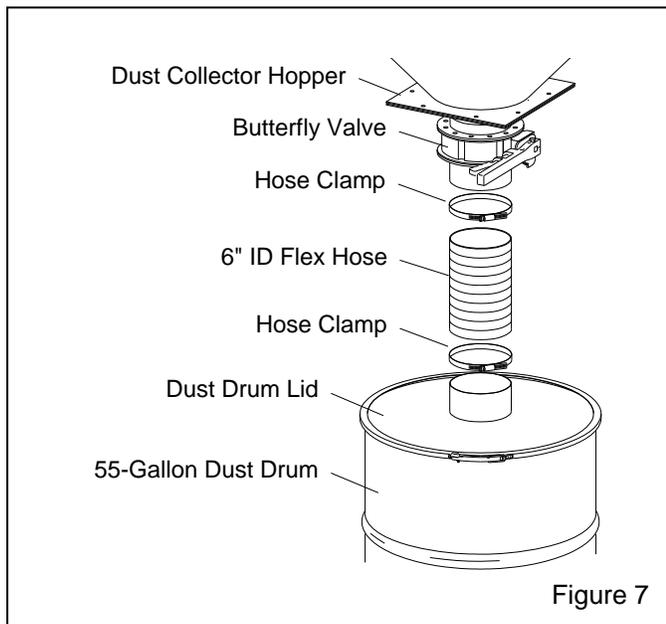

Figure 7
2.11 Dust Containers, Refer to Figure 7